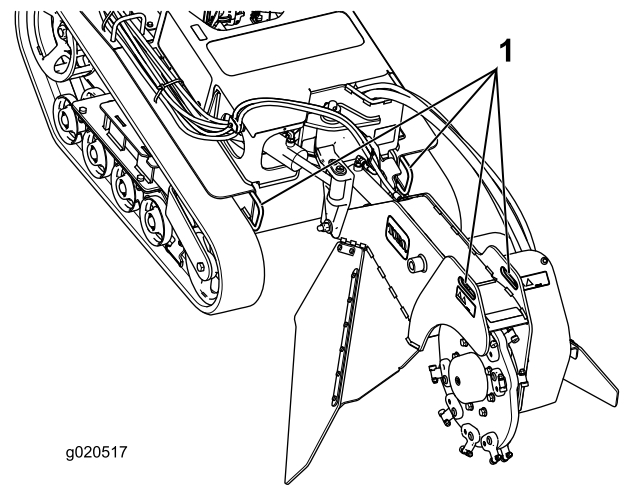
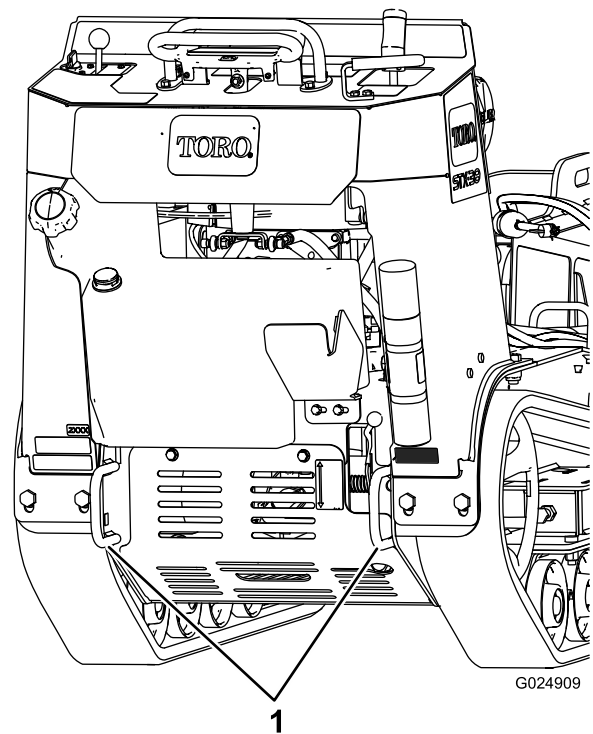

Figure 22
Figure 23
3. Secure the machine to the trailer with chains or straps using the tie-down/lift loops at the front and rear of the machine (Figure 22 and Figure 23).
You can lift the machine using the tie-down/lift loops as lift points (Figure 22 and Figure 23).